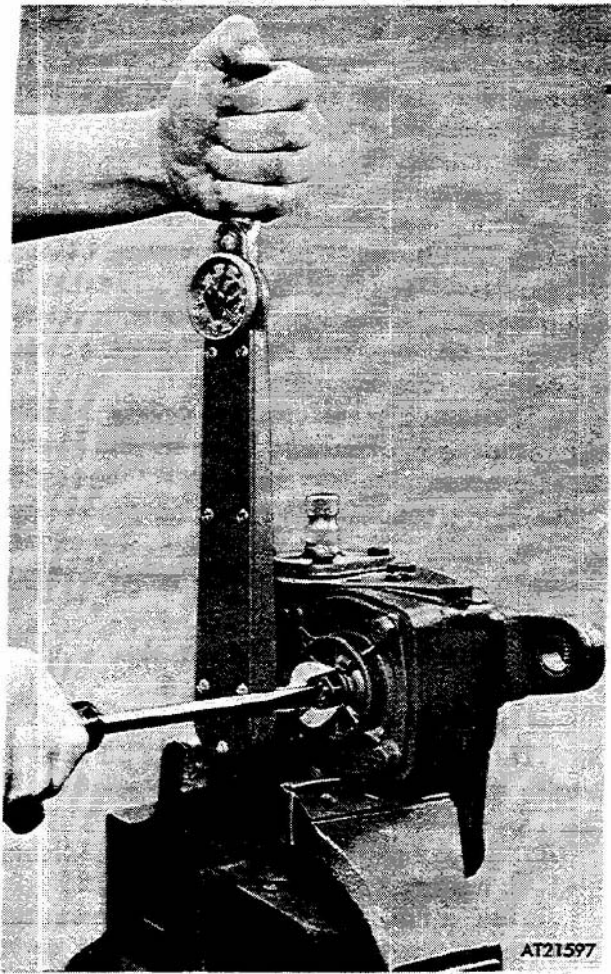

Figure 3-224. Securing rear steering gear box adjustment screw.
(4) Turn screw (14) and recheck preload until proper preload is obtained. Hold screw stationary and tighten nut (18) to 16-20 lbs-ft. torque (fig 3-224).